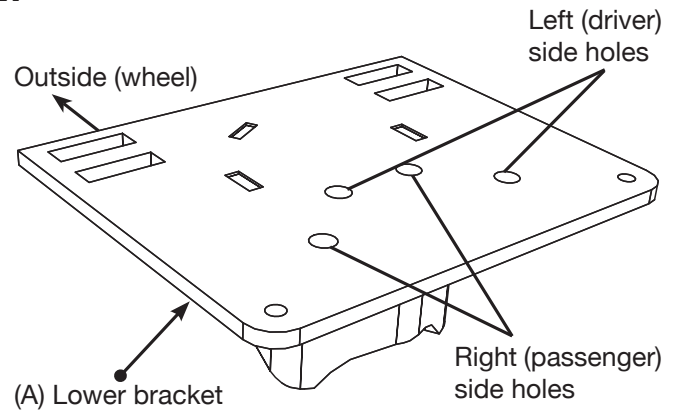

Fig. 5
If you have no fifth wheel hitch or a hitch that does not have a plate running along side the full length of the frame (these will have an “L” bracket forward and behind the axle leaving the middle frame open) use the 1/2”-13 x 2.00” hex cap screw (HH) with a flat washer (R) through the slot in the side of the frame, then through another flat washer (R) and finally through the upper brace. Cap with a flat washer (R) and a 1/2”-13 nylon lock nut (X) (Fig. 5). Leave loose at this time.
2. Install the swivel elbow fitting (Z) into the top of the air spring finger-tight. Tighten the swivel fitting one and a half turns.
3. The lower bracket (A) has two sets of air spring mounting holes. Using the corresponding holes in the lower bracket designated (Fig. 5), attach the air spring to the brackets using the 3/8" flat washers (W), lock washers (U), and 3/8"-24 x 7/8" hex head cap screws (N). Torque both mounting screws to 20 lb.-ft (27Nm).